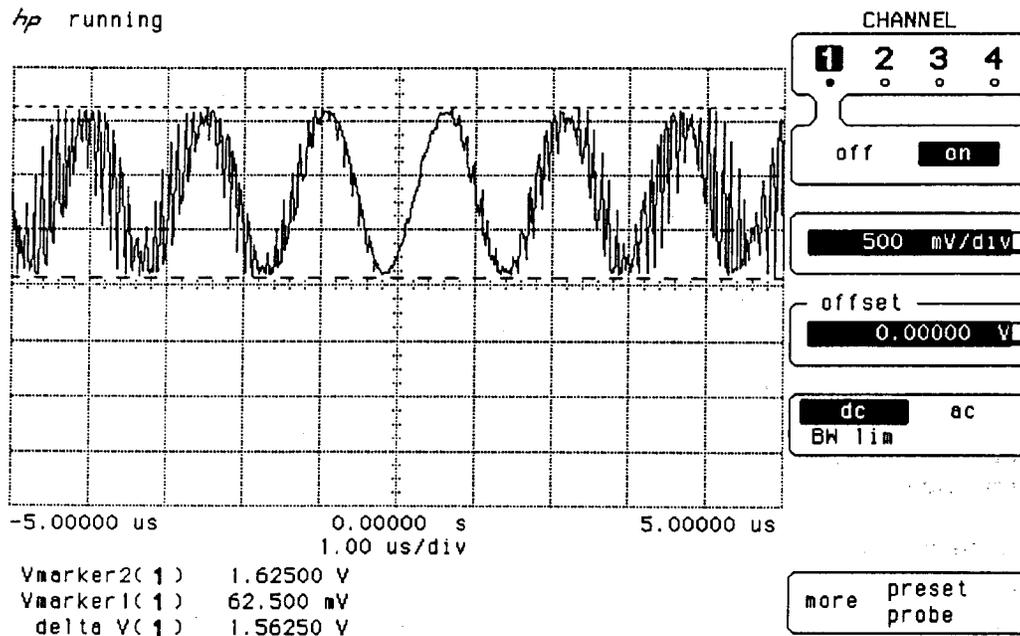

Figure D-1. Frequency Modulation Waveform
- 3 Verify that the Channel A output of the QSSS is similar to *Figure D-1*.
- a. If the waveform is not similar to *Figure D-1*, then the QSSS is not functioning properly. Go to step 4.